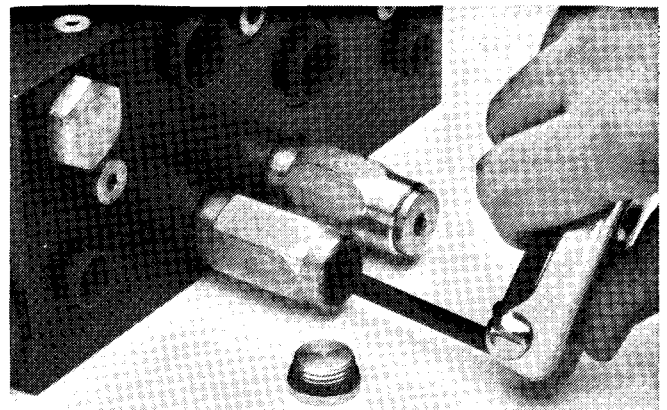

Figure 20c
8. Stop the engine. If pressure is too high, remove cap on relief valve R1 and adjust screw to get correct pressure (Fig. 20c). If pressure is too low, check for restriction in pump intake line. Remove cap from relief valve R1 and adjust screw to get correct pressure. If pressure is still too low, pump or lift cylinder(s) should be suspected of wear, damage or inefficiency.
8. Stop the engine. If pressure is too high, remove cap on relief valve R2 and adjust screw to get correct pressure (Fig. 20c). If pressure is too low, check for restriction in pump intake line. Remove cap from relief valve R2 and adjust screw to get correct pressure. Inspect logic cartridge LC2 and clean or replace if necessary. If pressure is still too low, pump or motor should be suspected of wear, damage or inefficiency.